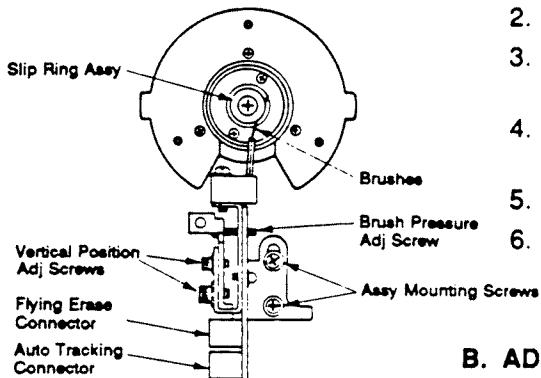

FIG. 1
3. Remove the 2 Assy. mount screws (Fig. 1) & carefully remove the brush Assy.
2. Adjust the brush pressure. The rubber covered base of the brushes should form a straight line with the center of the top of the slip ring Assy. As shown in Fig. 1. Refer to Fig. 4 for adjustment screw locations.